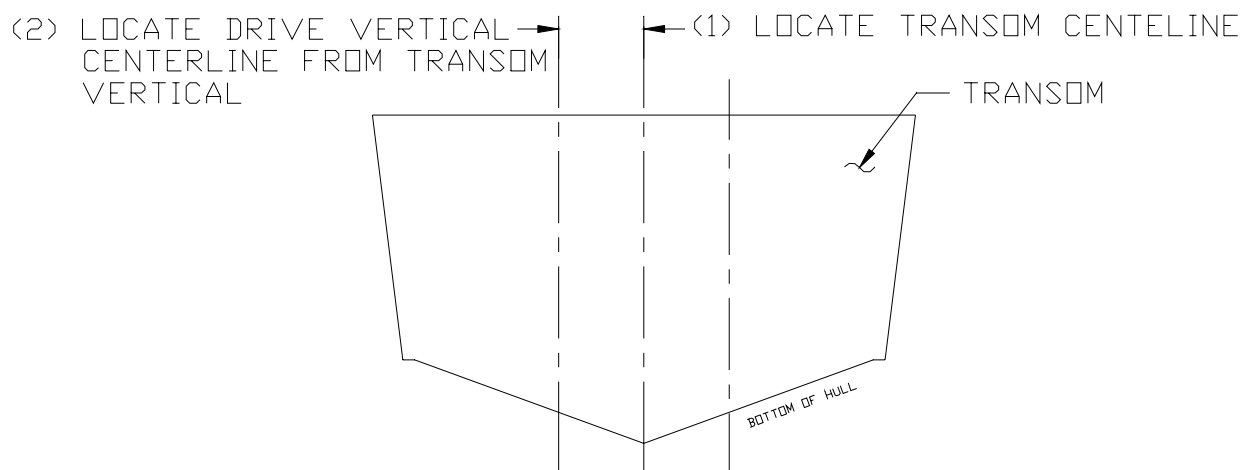

Figure 13. Drive Centerline Location
1. Locate a vertical line(s) on the transom through the intended drive centerline(s) as follows: For twin drive installations, it is recommended that drive centerlines be located in-line with the engine centerlines. For applications requiring offset drive mounting, contact Twin Disc, Incorporated, for recommendations. If at all possible, drive mounting holes should avoid stringers and other hull fittings that preclude the use of through-bolts. See Figure 13.